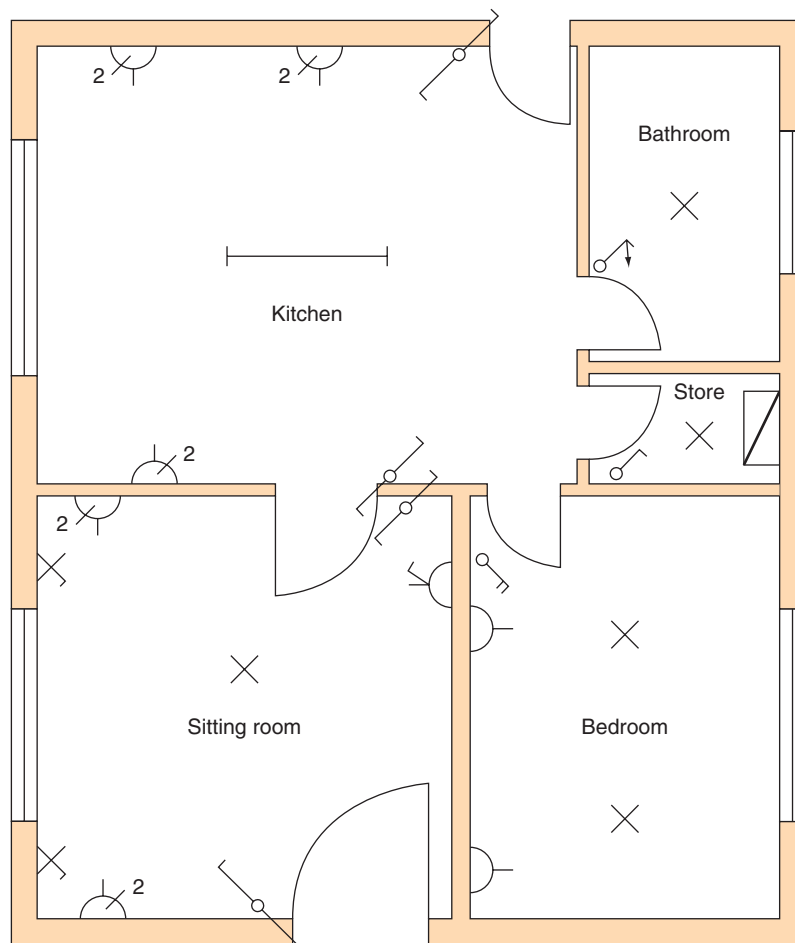

FIGURE 1.14
- A location or layout diagram is shown on the worksheet linked to this handout (Worksheet 12, Fig. 1.14).
- A location or layout plan for a small domestic extension is shown in Fig. 1.14. Use the information given in Handout 15, Fig. 1.13, to identify the electrical equipment in each room on the worksheet overpage.